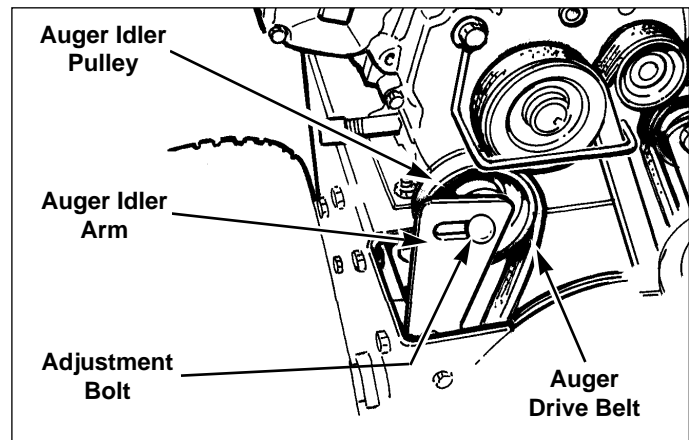

Figure 22b. Auger Drive Belt, Guide and Pulley
6. Loosen the adjustment bolt (see Figure 22b) and move the auger idler pulley.